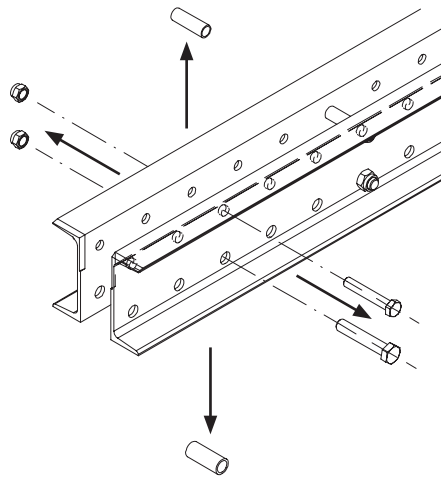

Fig. B2.01a
3. Remove external spacers.(Fig. B2.01a)
- After the bolts have been removed, five rows of holes must then be free up to the next pair of bolts. (Fig. B2.01a)